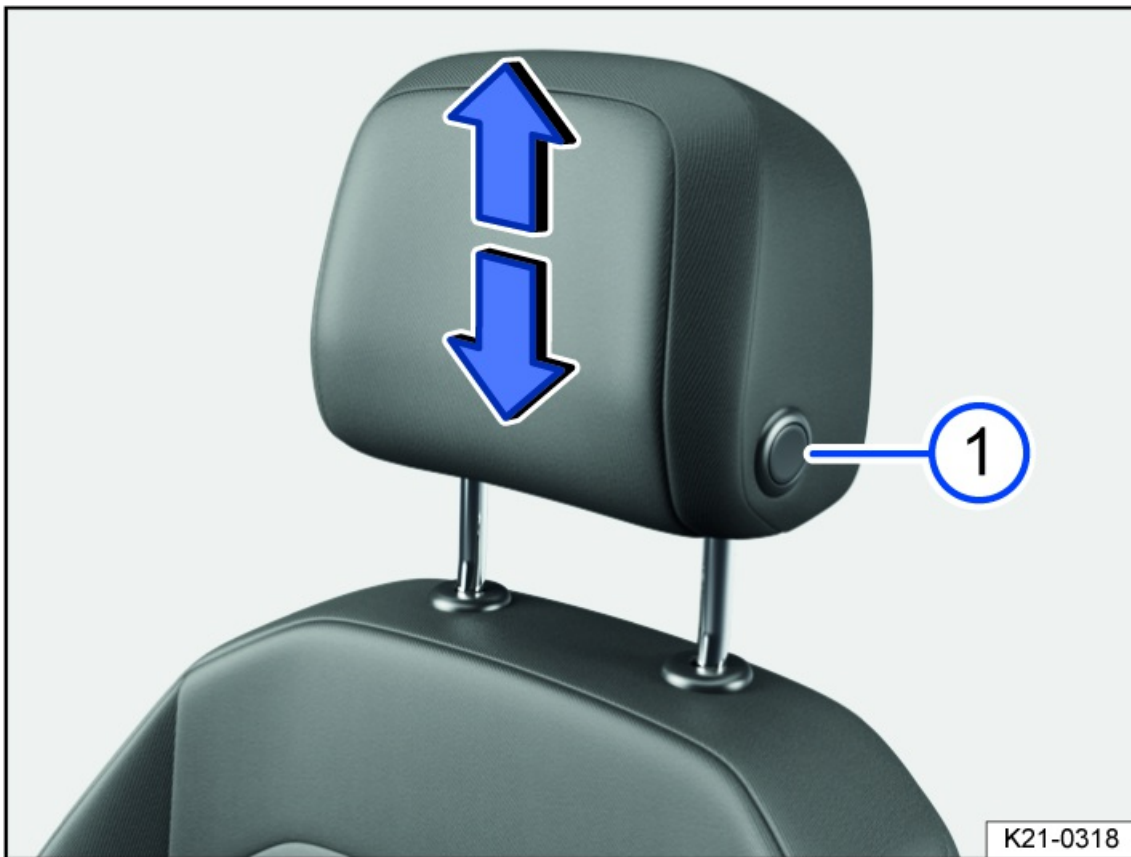

Fig. 65 Adjusting the front head restraint (general example).
1. If necessary, slide the head restraint upward or downward in the direction of the arrow and when pressing the button. *fig. 65*